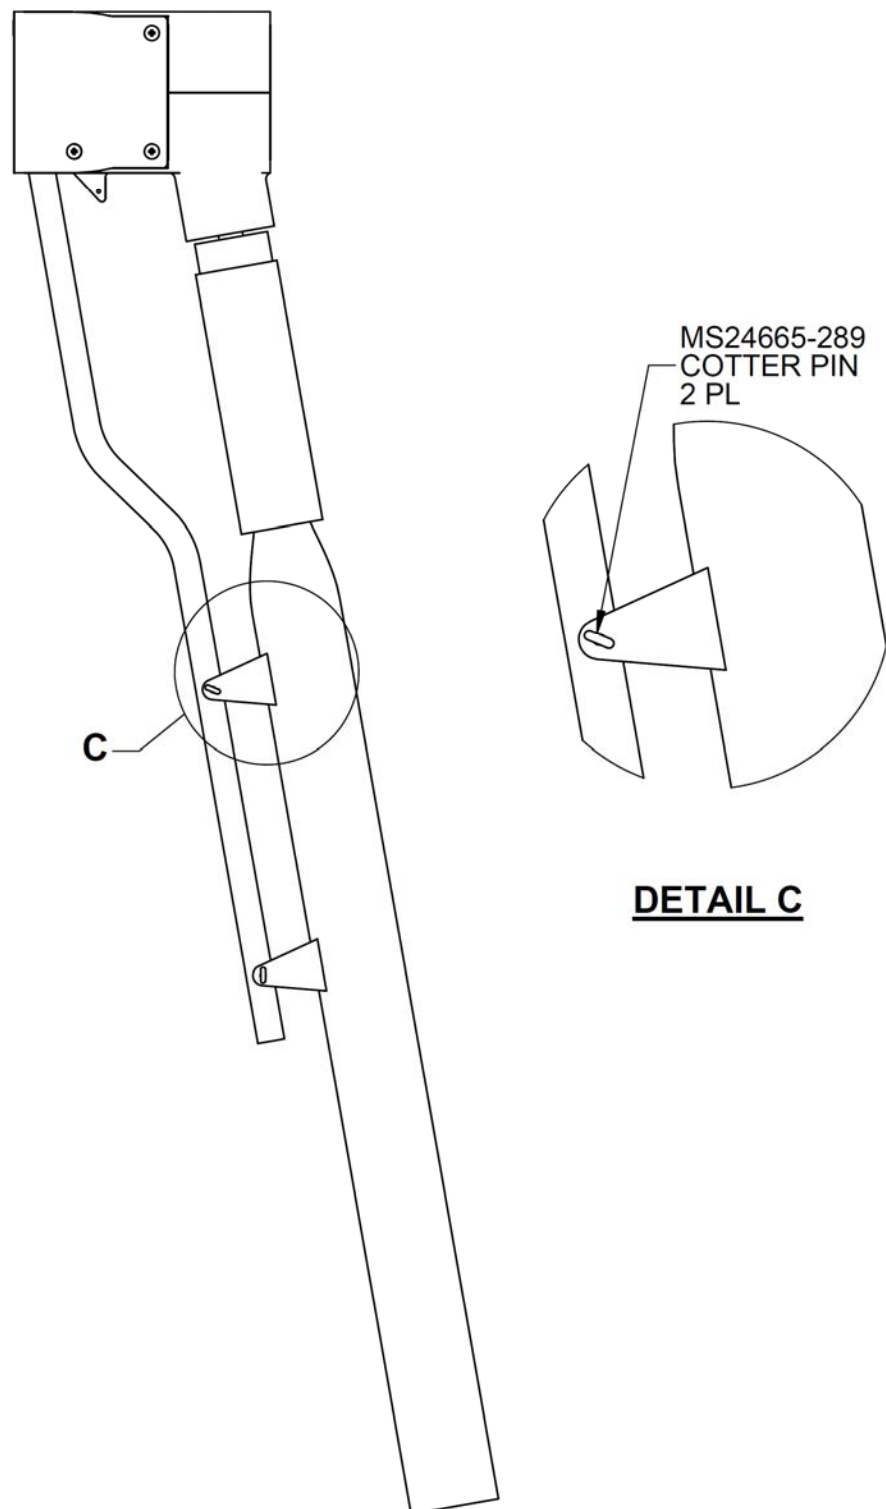

FIGURE 30: D205-803-221/-223 Co-Pilot Collective Head Installation
- 3.18.12 Secure loose end of D5054-1 Conduit to Stick Assembly by transfer drilling 7/64" and deburring two holes from the mounting brackets on the 204-001-612-1 Stick Assembly through the D5054-1 Conduit. Do not route wires through the D5054-1 Conduit until after transfer drilling. Attach the D5054-1 Conduit using hardware as shown in Figure 30. Hand form D5054-1 Conduit as necessary to secure to Stick Assembly.